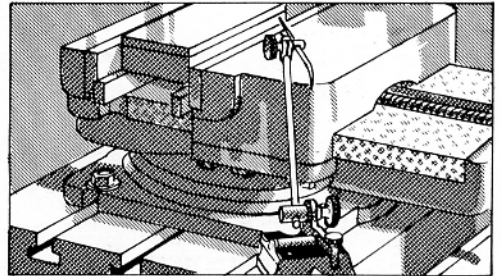

FIG. 302
- Scribe a line on the side of the casting from which the cut is to be started. Draw the base of the surface gage across the top of the vise jaw. At the same time, keep the scribe in contact with the side of the work (Fig. 302).